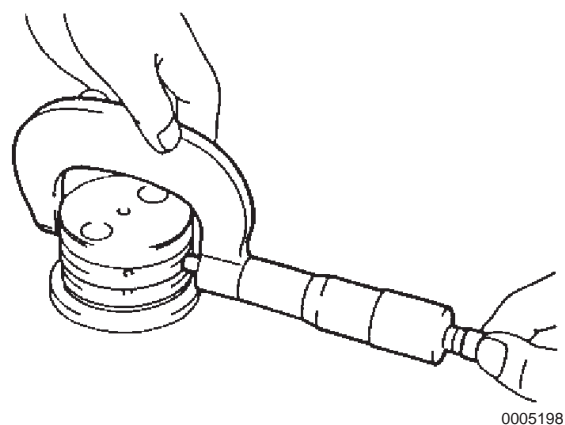

Figure 5-198
2. Measure the outside diameter of the idler gear shaft using a micrometer (**Figure 5-198**).